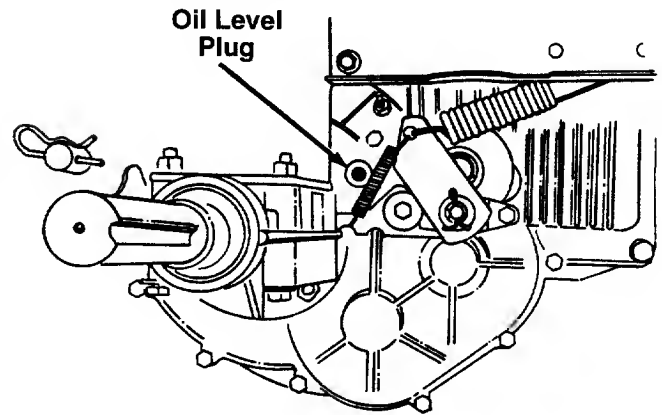

FIGURE 18.
5. Using a 1/4" allen wrench, remove the oil level plug from right side of transaxle. See figure 18.